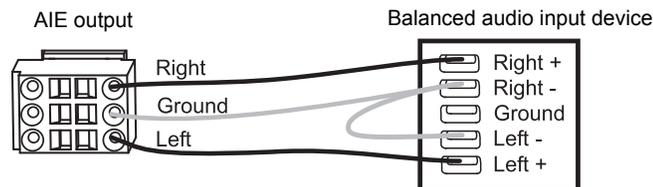

FIG. 82 Wiring from AIE to balanced audio input device if buzzing occurs
- Wire the AIE connector as follows: AIE L to device L+; AIE R to device R+; AIE ground to device R-; and a jumper from device R- to device L- (see FIG. 82 on next page).
The wiring in FIG. 82 can be used if the extracted audio buzzes when connected to a balanced audio input device.